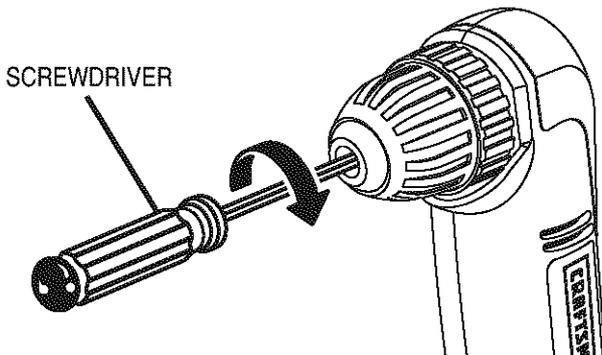

Fig. 10
- Open the chuck jaws and remove the hex key. Remove the chuck screw by turning it in a clockwise direction. See Figure 10.